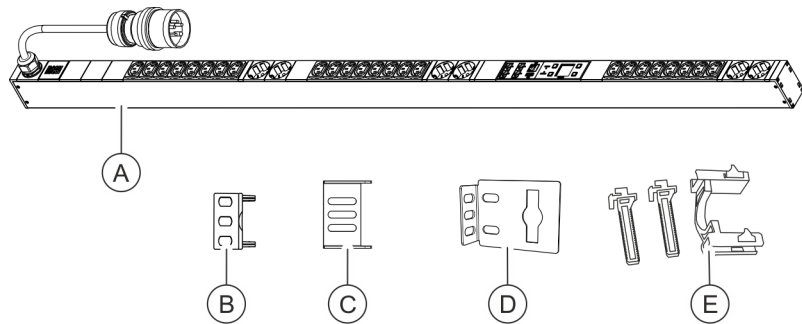

Fig. 12: Scope of delivery
- PDU (Fig. 12/A)
- Two plug-in brackets for mounting the PDU via the back (Fig. 12/B)
- Two plug-in brackets for mounting the PDU via the sides (Fig. 12/C)
- Two mounting brackets (Fig. 12/D)
- Two sets of non-heating appliance locking devices (C13/C19) (Fig. 12/E)